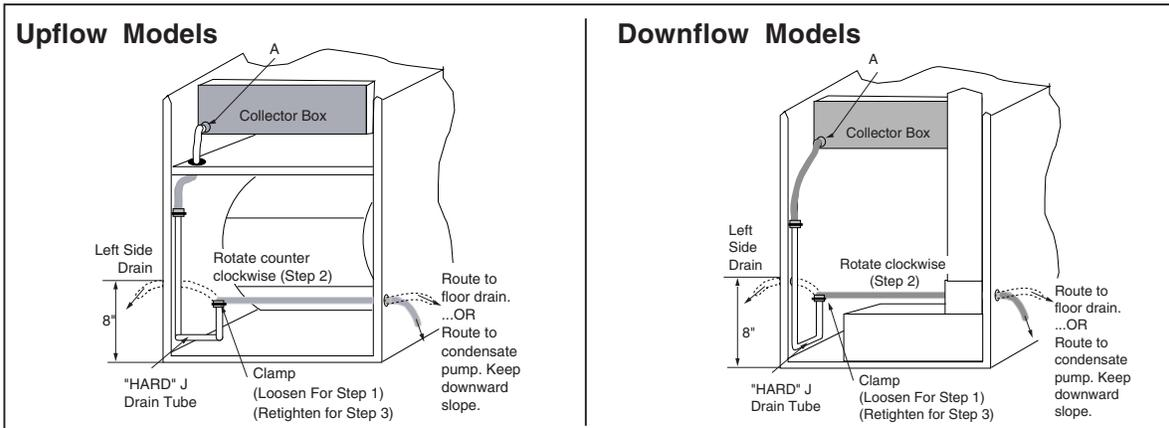

Figure 23. Furnace with Condensate Drain Trap Assembly
The condensate drain can be routed to a flow drain or to a condensate pump. Ensure that the drain maintains a downward slope from the unit to the drain. Refer to Figure 23 for more details.
For a right side drain simply extend the tubing out of the hole in the cabinet, see Figure 23. For a left side drain follow the steps below:
1. Loosen the clamp on the soft exit tube (see Figure 23.)
The condensate should drain from the plastic collector box (location A in Figure 23) as droplets or a small stream. If you notice the furnace has operated for more than 5 minutes without draining or the red status light on the control board is pulsing a 2-blink code follow the steps below.
1. Remove the collector box soft tube at location A in Figure 23 and insure the exit from the collector box is clear of any debris or obstructions.